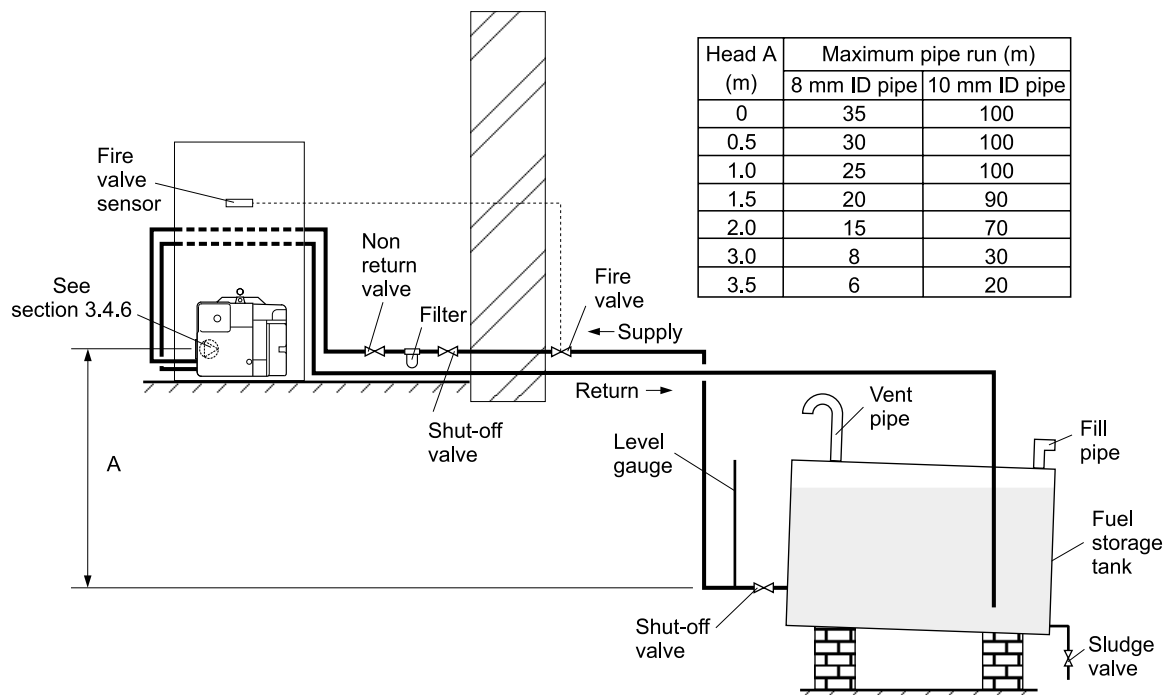

Fig. 3 - Two pipe system
3.4.4 Two pipe system - (See Fig. 3)
- When the storage tank outlet is below the burner, the two pipe system should be used. The pipe runs should be as shown in Fig. 3. The return pipe should be at the same level in the tank as the supply pipe, both being 75 to 100 mm above the base of the tank. The pipe ends should be a sufficient distance apart so as to prevent any sediment disturbed by the return entering the supply pipe.